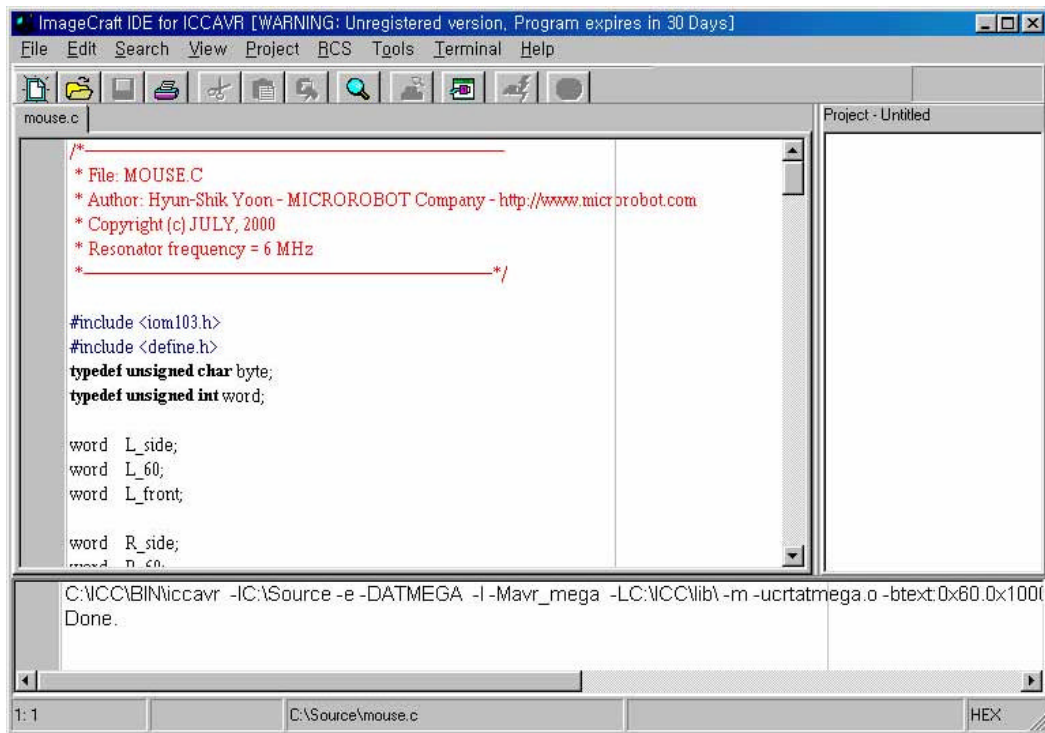

Fig 3.8
- ④ Click File → Compile File → To output; or push Ctrl+F9.(Fig 3.8)